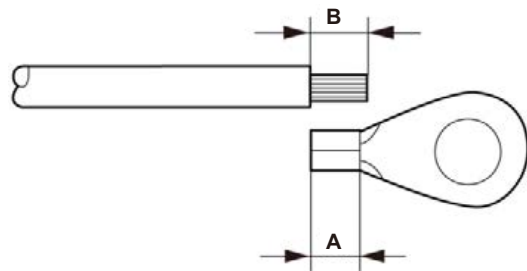

Figure 3.15 Suitable length
- 3) Strip the ground cable insulation to a suitable length (see Figure 3.15).